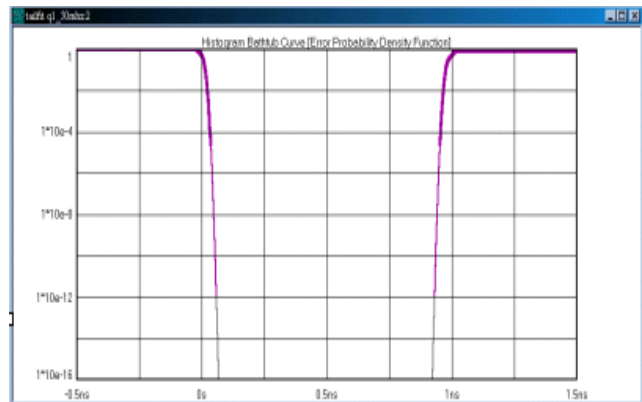

Figure 6. Bathtub Curve Passes @ BER 10⁻¹²
Figure 6 shows a Bathtub curve, also referred to as an “error probability density plot”. This plot is produced by a convolution of the DJ and RJ probability density functions (PDF’s) acquired from Tail-Fit™. The plot shows a view of the long-term reliability of the signal under test. Total Jitter (TJ) is extracted directly from this plot and is defined as a pk-pk value at a specific bit error rate, or number of clock cycles. The TJ value is read from the curve at the point that the color turns to grey.
A specification failure would be indicated if the lines met above the “bit error rate” set in the dialog menu. In Figure 7, the spec is set to 120ps (for the same clock used in Figure 6). Note that this plot shows TJ=120ps, since the actual TJ=127.333ps the clock failed the 120ps spec. The plot indicates that the device under test is predicted to fail the spec at just over 1¹⁰e-11 seconds.